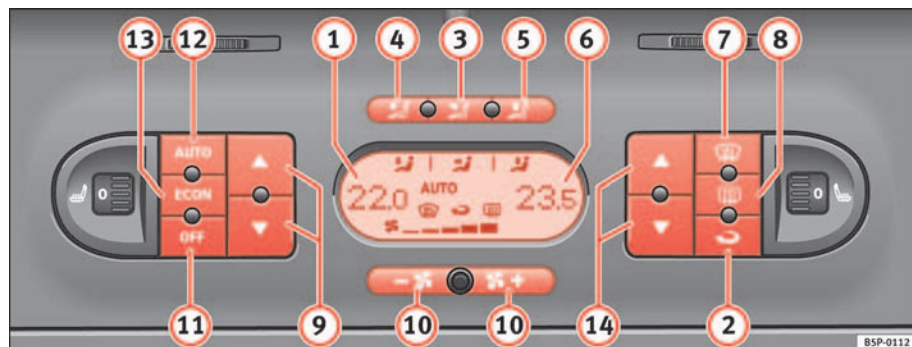

Fig. 127 On the dash panel: 2C Climatronic controls ▶
- Press the temperature control buttons ⇒ page 154, fig. 127 ⑨ or ⑭ in order to adjust the temperature on the left-hand side or the right-hand side respectively.
- Press the button  ⇒ page 154, fig. 127. “AUTO” is shown on the display. ▶